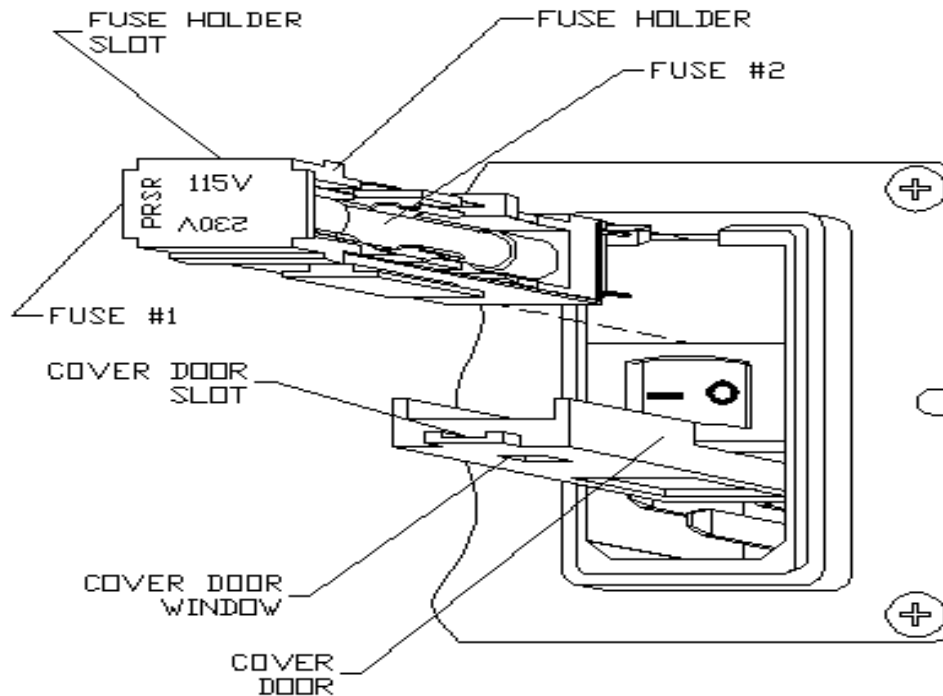

Figure 1: AC Input Module
1. A small flat-bladed screwdriver or similar tool is needed to complete this procedure. Please refer to Figure 1.
1. Please refer to Figure 1.